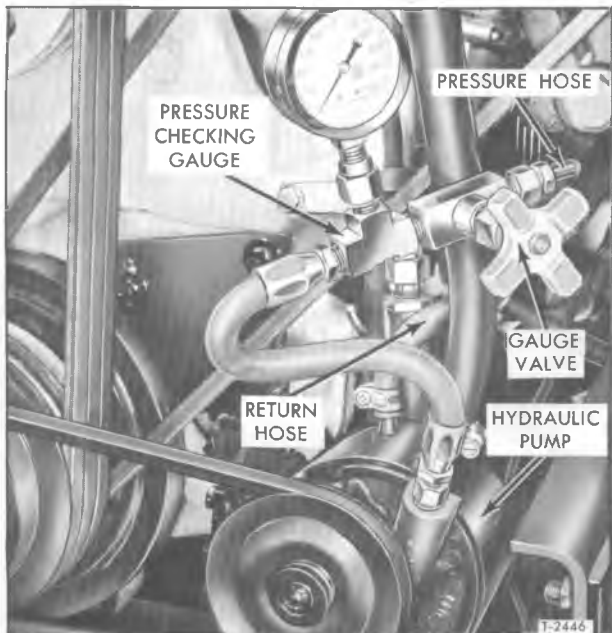

Figure 10—Steering Wheel Removal (Typical)
2. Set front wheels in straight-ahead position; then pry horn button cap (13) and retainer (12) from steering wheel.
3. Remove steering wheel locking nut (11) and washer.
4. Using puller (J-2927-01), remove steering wheel (fig. 10). It may be necessary to tap on bolt head of tool with a hammer as it is tured down to loosen a tight steering wheel.